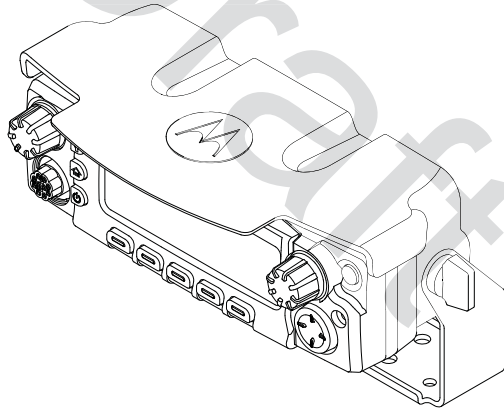

Figure 5-25. Position Control Head as Desired
- Position control head as desired and install screws as shown in Figure 5-25.